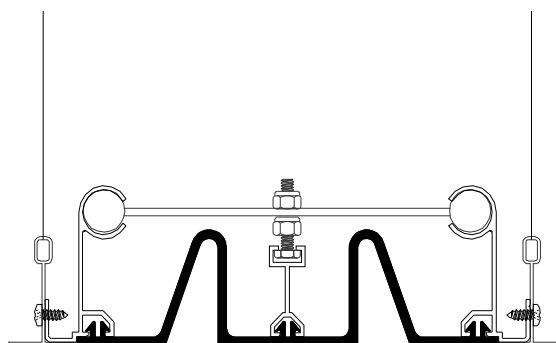

Figure 13
**STEP 24.** Attach the face seal to the base member by inserting the face seal's arrow continuously into the base member's receiver. Attach the face seal to the corner wall member by inserting the face seal's arrow continuously into the base member's receiver (see Figure 13).